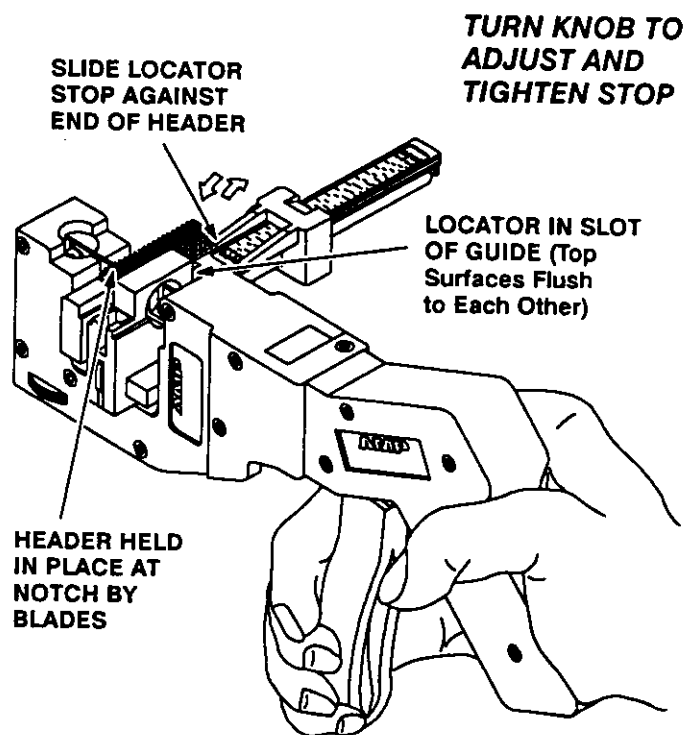

Fig. 4
D. Install And Adjust Locator (Figure 4)